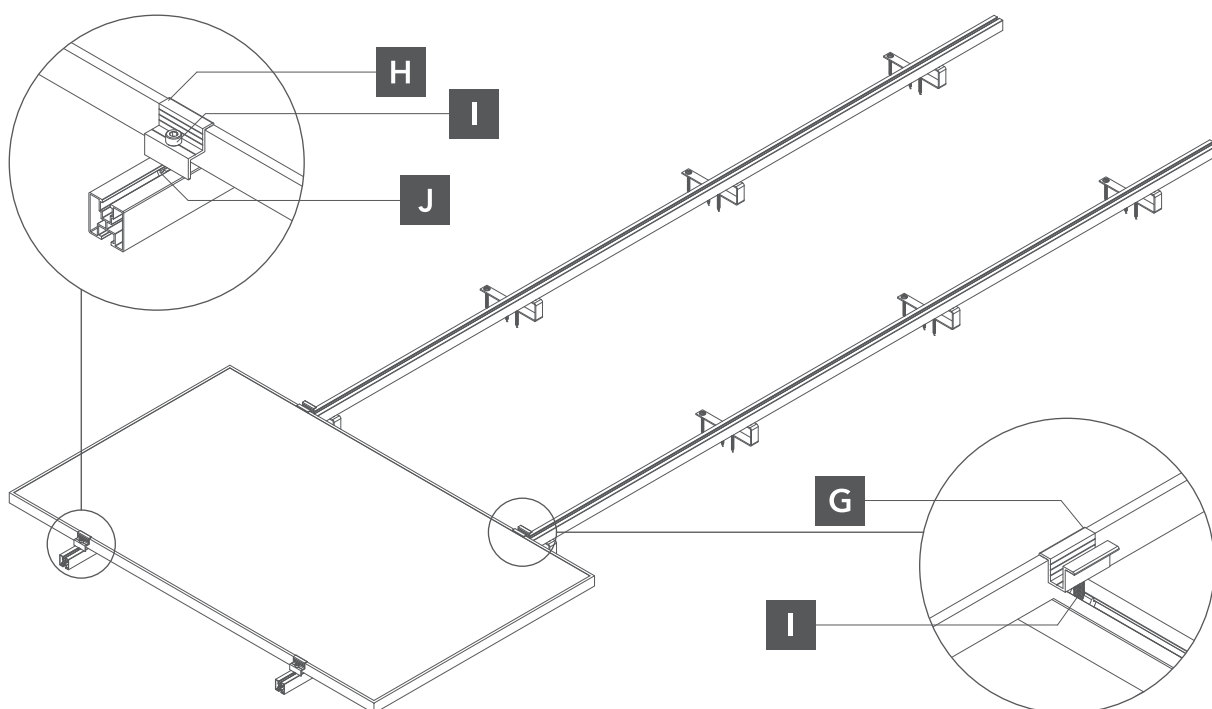

Fig. 7. attachment of the module to the mounting rail.
- 6** On the mounting rails we put the first outer photovoltaic module and we fix the end clamps by fastening them with allen screws M8 and slot nut M8. Then we install the middle clamps without fixing them. After the next modules are installed, the middle clamps can be fastened. This process should be repeated until all modules are mounted in a row (Fig. 7).